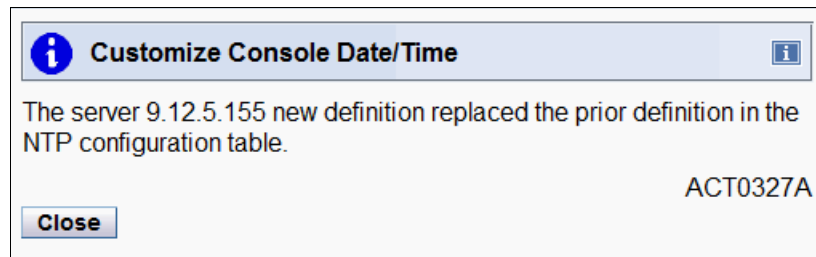

Figure 9-25 HMC: Customize Console Date and Time NTP setting change confirmation screen
- The next window (Figure 9-25) indicates that the modification finished. Click **Close**.